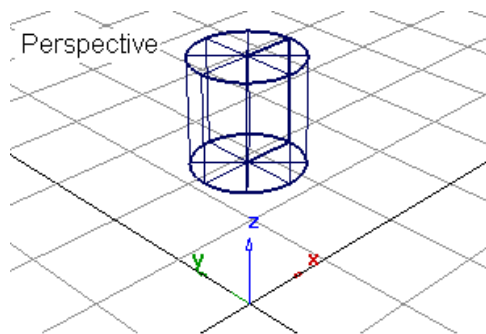

Figure 2-114 Base feature
2. Enter **0, 0, 200** in the promptline and press ENTER; the base feature is created, as shown in Figure 2-114.